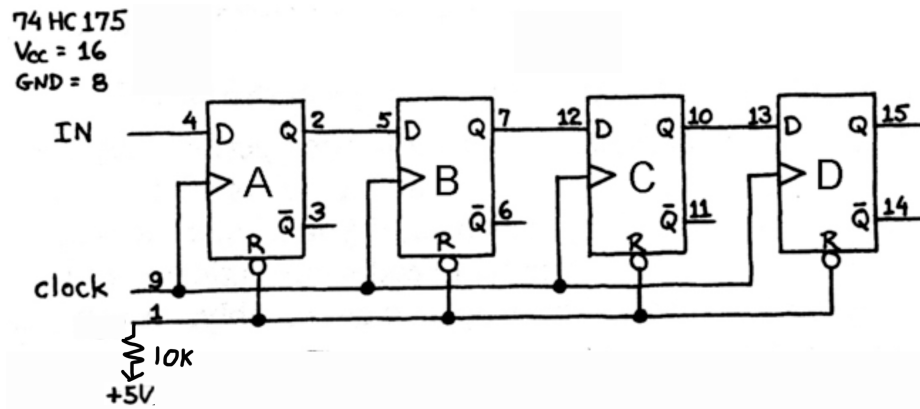

Figure 10.6. Shift register
We consider a circuit (Figure 10.6) delays the a (possibly periodic) signal called "IN" connected to D of the first flip-flop, and synchronizes it to the faster CLK. Build the circuit (Figure 10.6). Use two function generators to periodic inputs that vary from 0 to +5 V, and choose  $f_{\text{CLK}} > 10 f_{\text{IN}}$ .
**10.6 "Double-Barreled" one-shot.** A shift register (Figure 10.6) plus NAND gates yield a "Double-Barreled" one-shot. (Figure 10.7). Before we start, we will need a pair of read-out indicators. Build *two* of the n-channel MOSFET LED drivers (Figure 10.8). These will be used to display the output from the D flip-flop register in the following exercise.
- Add NAND gates to the shift register circuit of figure 10.6 (Figure 10.7).